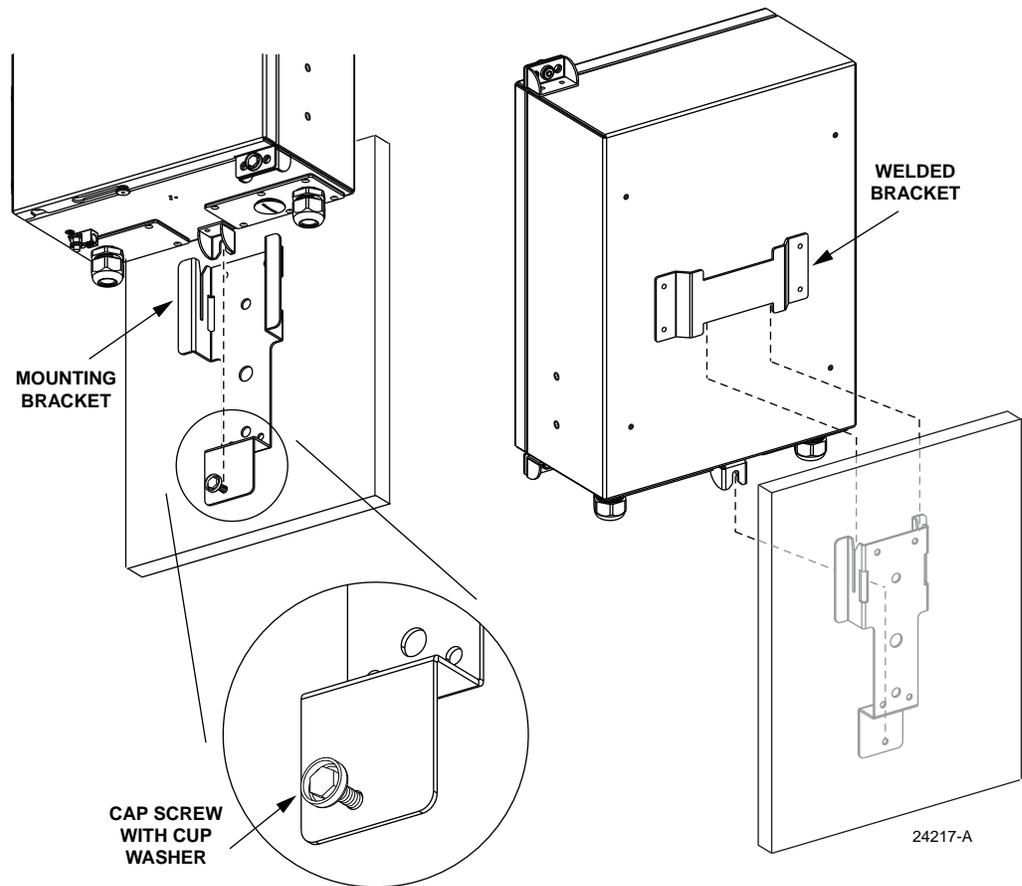

Figure 11. Installing Cabinet on Wall-Mounted Bracket
7. Hang the cabinet from the installed mounting bracket. The welded bracket on the back of the cabinet, shown in Figure 11, fits into the two slots at the top of the mounting bracket. The partially installed cap screw at the bottom of the mounting bracket fits into the slotted tab at the bottom of the cabinet.
6. Hang the cabinet from the installed mounting bracket. The welded bracket on the back of the cabinet (see Figure 11) fits into the two slots at the top of the mounting bracket. The partially installed cap screw at the bottom of the mounting bracket fits into the slotted tab at the bottom of the cabinet.